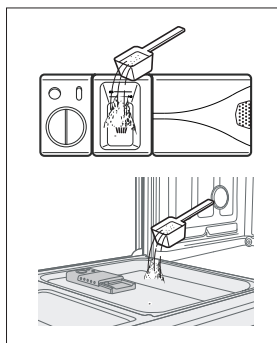

Fig. 7
1. Open the detergent dispenser cover by pushing the detergent dispenser release lever (Fig. 7).
- If they do not fit in the basket, you can put them on the stand in the upper rack. (Fig. 7).